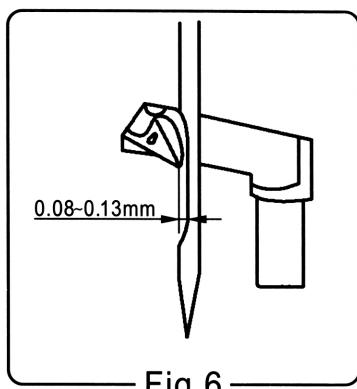

Fig.6
c. Rotate the machine pulley so that the looper A (Fig.5) moves from right to left. The looper point should pass close as possible as the back of the needle without contacting, about 0.08 ~ 0.13mm (Fig.6) clearance. For adjustment, loosen screw D (Fig.4) in the looper eccentric fork C and turn rocker shaft E on the looper rocker with the looper forward or backward as required. Retighten screw D.
(2) Needle Bar